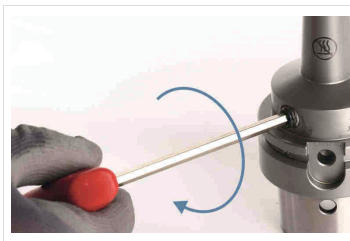

Fig. 11: Clamp the tool
4. Turn the clamping screw **up to the stop** using an hex-wrench with T-handle (see *Fig. 11: Clamp the tool*).